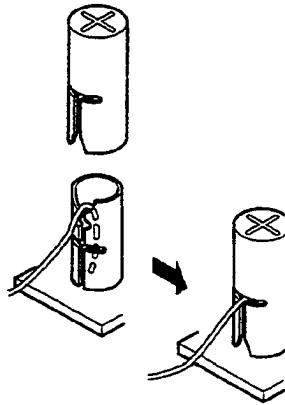

Figure 1-78 Attach Cables to the ADA-U Unit
3. Remove the cap on the adapter terminal to expose the metal receptacle. Push the cable in the applicable receptacle and replace the cap. Be sure to line up the slot on the cap with the slot on the metal receptacle to ensure proper contact. Refer to Figure 1-78 Attach Cables to the ADA-U Unit.